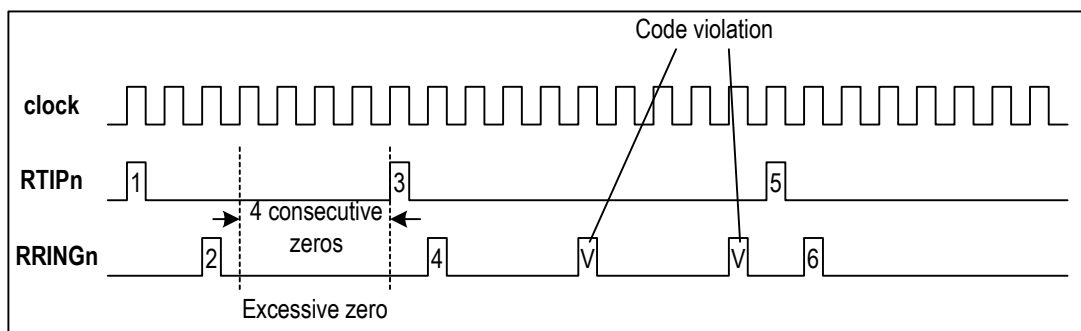

Figure 10. HDB3 Code Violation & Excessive Zero Error
- HDB3 Code Violation (CV) Error: When HDB3 line code rule is used, a CV error is detected if two consecutive BPV errors are detected, and the pulses that have the same polarity as the previous pulse are not the HDB3 zero substitution pulsed (refer to Figure 10).